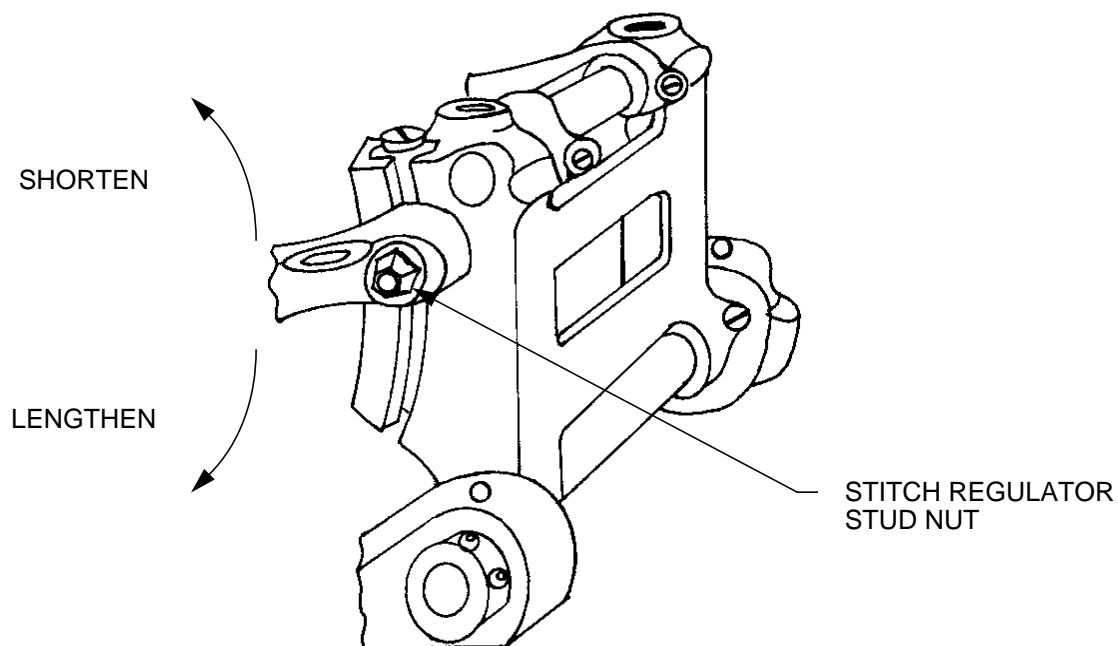

FIGURE 5 - STITCH LENGTH ADJUSTMENT
- Step 1. Loosen the stitch regulator nut on the side of the feed rocker (see Figure 5).